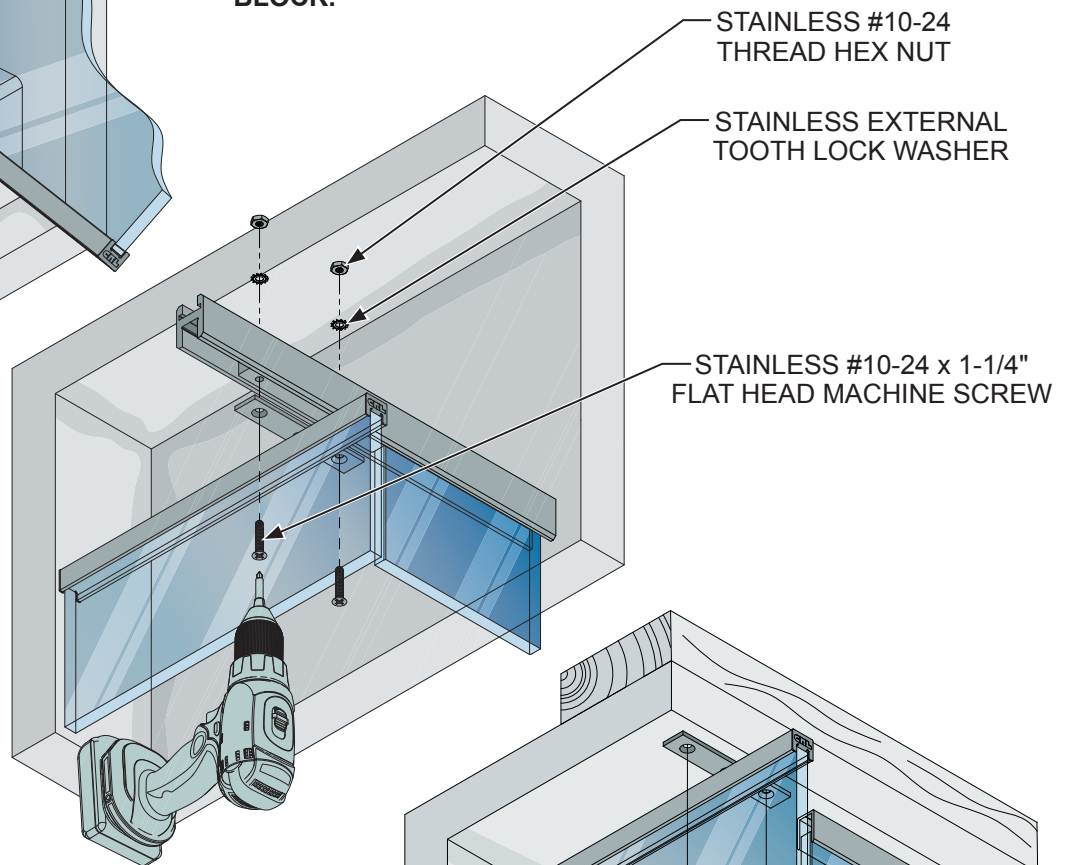

Figure 19
2. For the header systems attach the Bushing Retainer and Top Pivot into the header with the fasteners supplied. See (Figure 19)